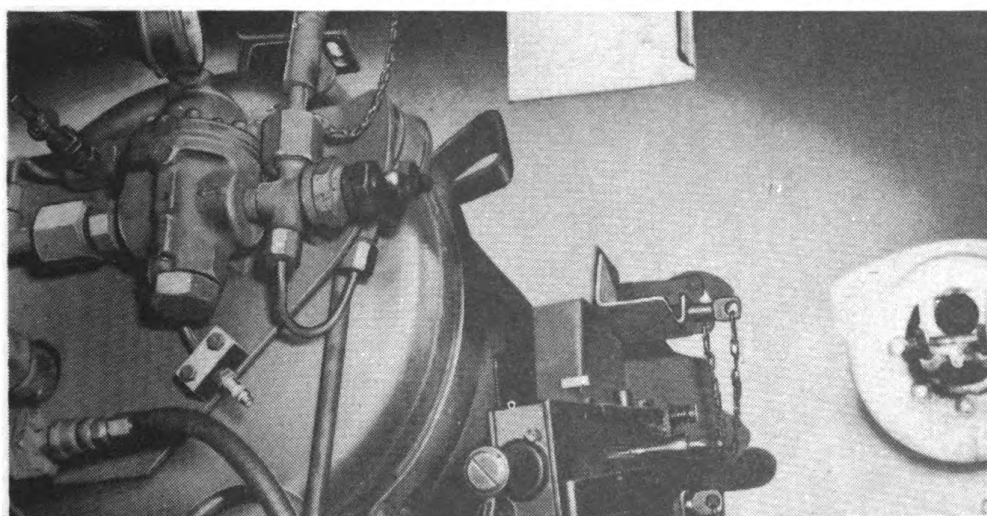

Fig. 38. Transmission fuel group installed, and U-bracket welded to roof of vehicle.
- f. Tack weld U-bracket to roof of vehicle at four or more points on each side of U-bracket (fig. 38).